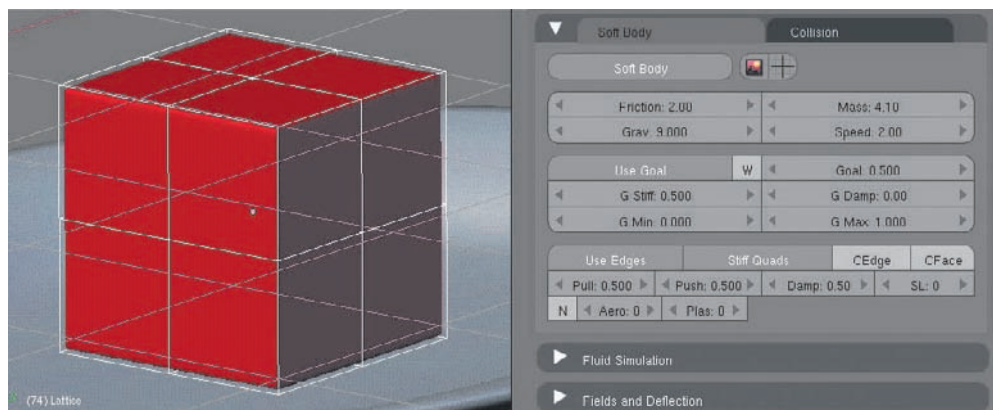

Figure 3.56 Soft body settings
4. Select the lattice and add a soft body simulation in the same way you did to other objects in the previous tutorials in this chapter. Soft bodies behave in the same way on lattices as they do on meshes, with the only difference being that the structure of the lattice contains internal edges. Set the values of the soft body simulation as shown in Figure 3.56.